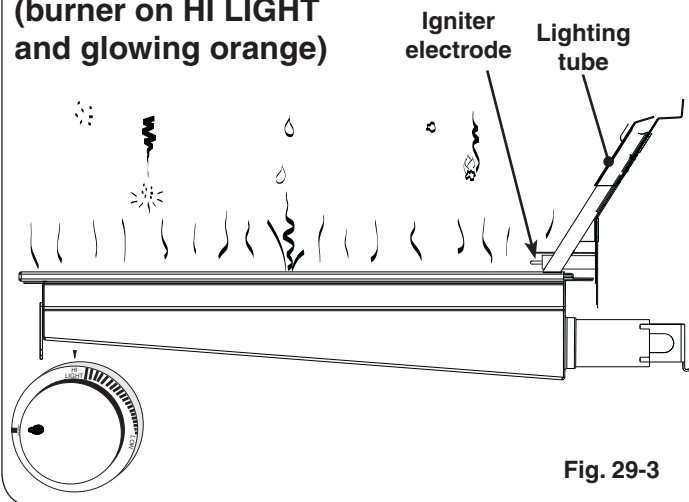

Fig. 29-3
- **DO NOT** place food on the cooking grid until the IR burner glows orange (Fig. 29-3). Drippings are heated and evaporate instead of sticking to and impairing burner function.